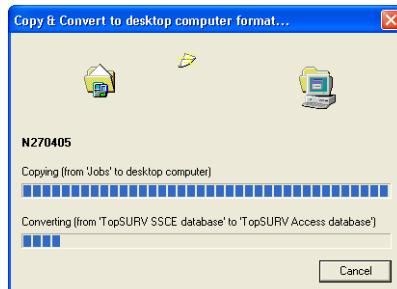

Figure 2-15. Import and Conversion in Progress
5. When the process of sending the file(s) from the TPS Controller to the computer starts, the *Copy & Convert Progress* (Figure 2-15) window displays the import and conversion in progress.